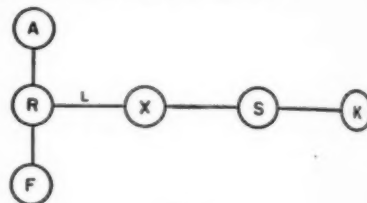

Fig. 1.
Fig. 1 shows a suggested arrangement for operating sirens using the fire alarm network. Ordinarily the fire signal device (X) sends the alarm signal over lines (L) to relay (R) which closes circuit to fire signal-whistle (F). If a key (K) is connected across the signal device, and a reversing switch (S) is installed in the lines, the current through relay is reversed causing it to close the cir-